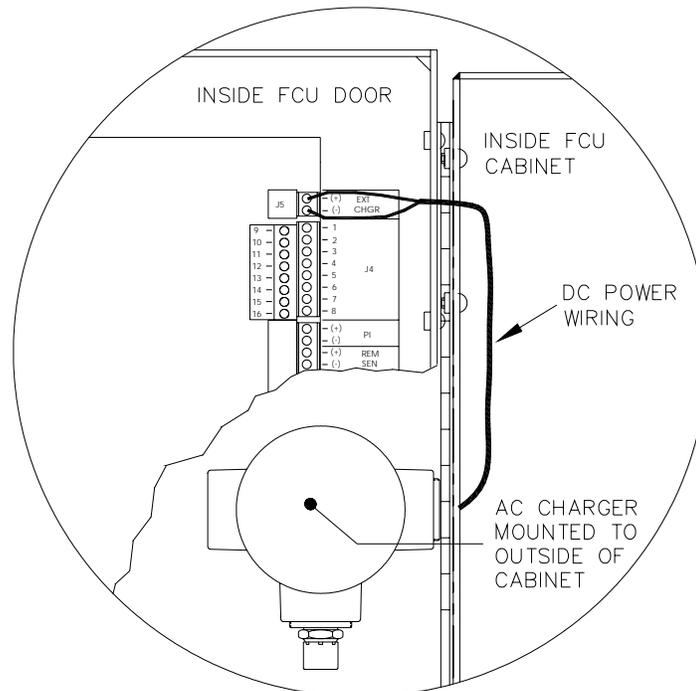

Figure 2-10. Mounting AC Charger
2.	Remove one of the plugs from the side of FCU so that AC charging unit can be mounted without obstruction; see Figure 2-10.